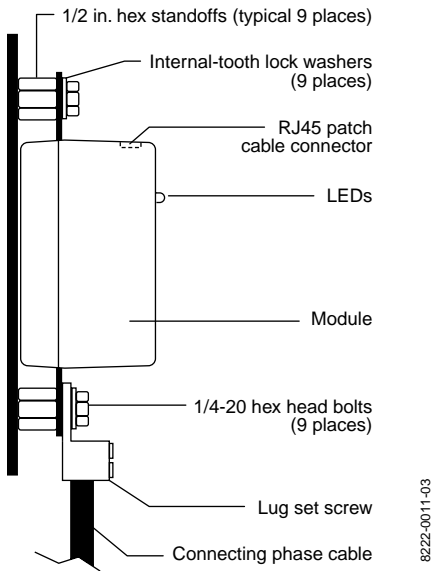

Figure 3: 3-Phase Module, Side View
3. Use a suitable tool to prevent each 1/2 in. hex standoff from turning (see Figure 3) and remove and discard the nine 1/4-20 hex head bolts and the nine corresponding internal tooth lock washers of the module. It is not necessary to remove the connecting phase cables from the lugs.
5. Install the new module, using the new hardware kit supplied (see Figure 3). Torque each 1/4-20 hex head bolt to 70 lb-in (8 N•m).